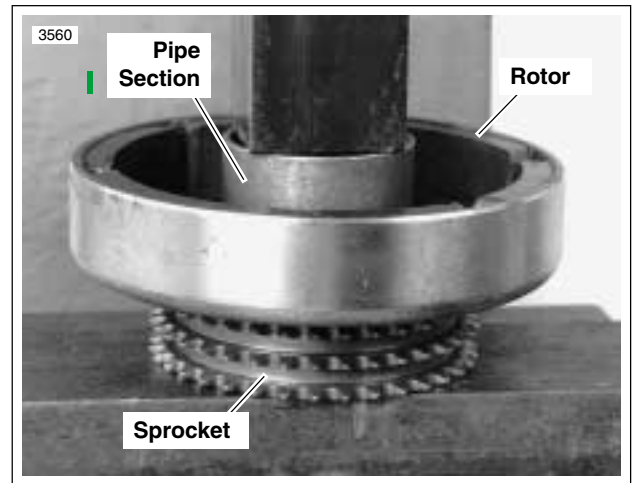

Figure 7-47. Pressing Rotor onto Sprocket
6. See Figure 7-47. Attach rotor to sprocket.